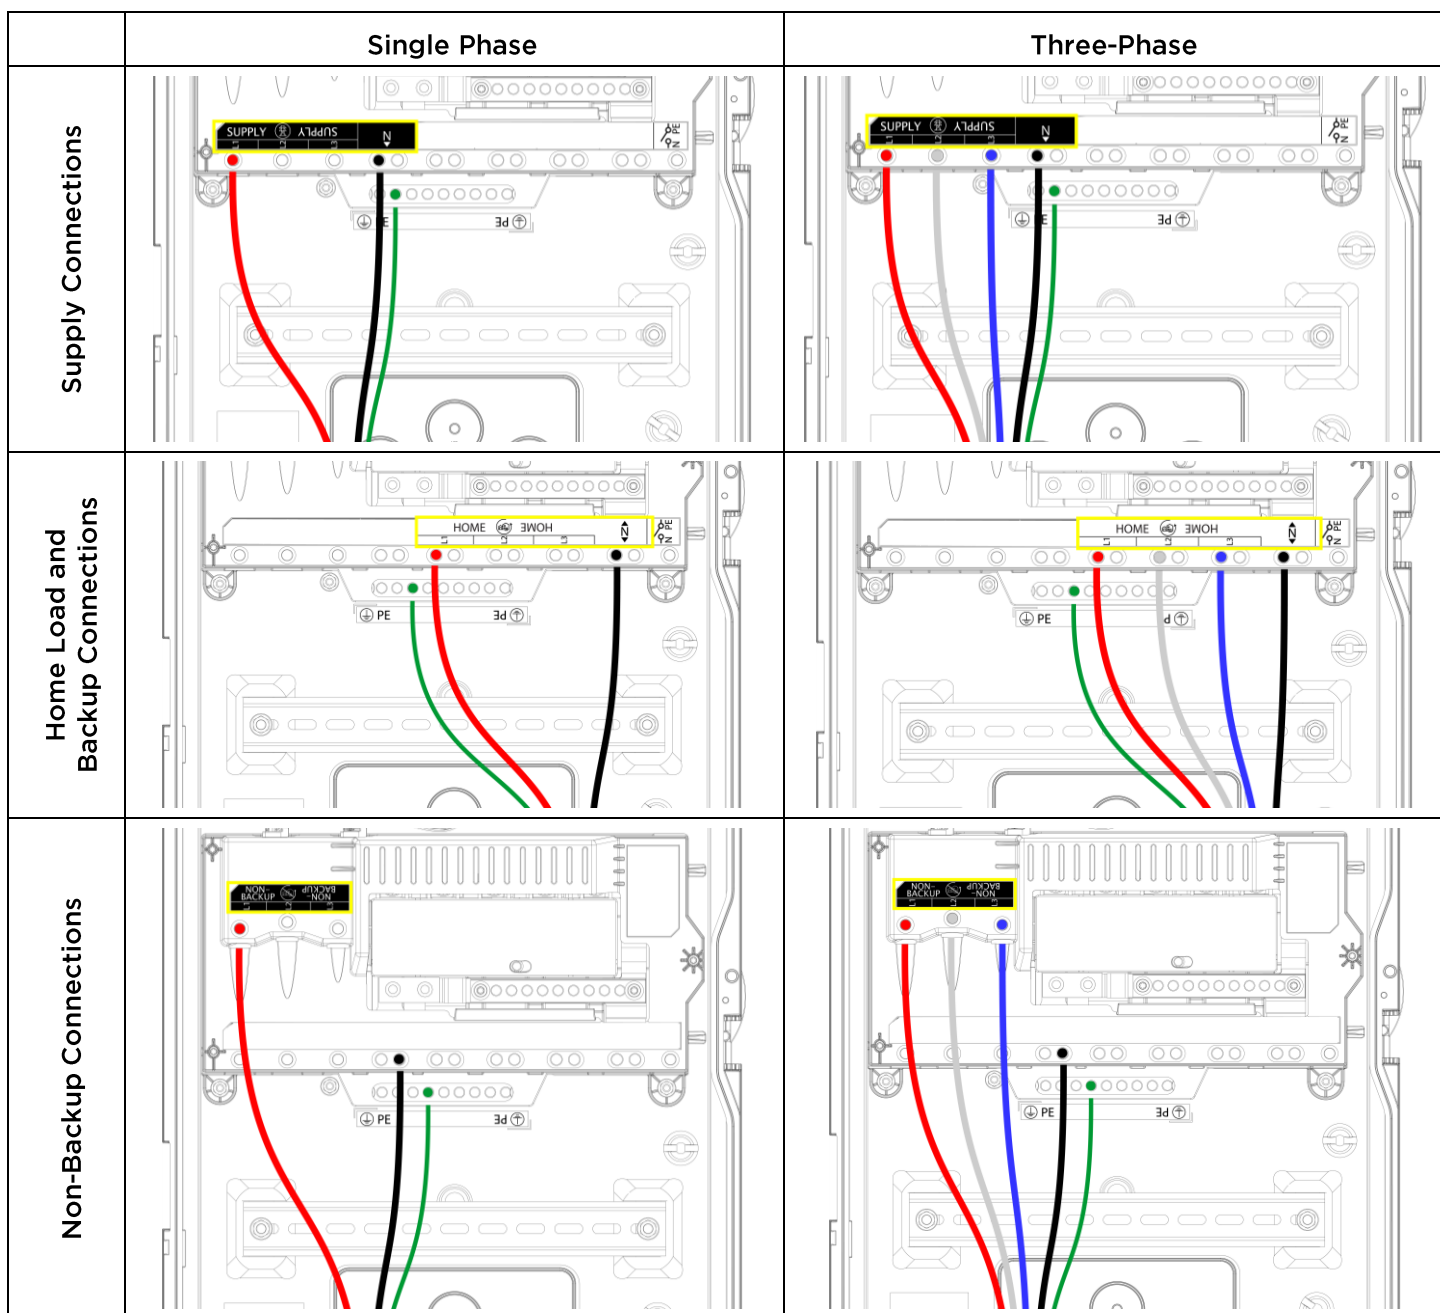

Figure 11: Conductor Connections for Single Phase (left) and Three-Phase (right)
1. Connect the main service conductors to the Backup Gateway Supply terminals according to Figure 11 and the accompanying table.
2. Connect the home load panel conductors to the Backup Gateway Backup terminals according to Figure 11 and the accompanying table.
4. Connect the non-backup panel conductors to the Backup Gateway Non-Backup terminals according to Figure 11 and the accompanying table. Any circuits connected here will not be powered when disconnected from the grid. During on-grid operation, these circuits are still metered by the internal site metering with no additional metering hardware required.